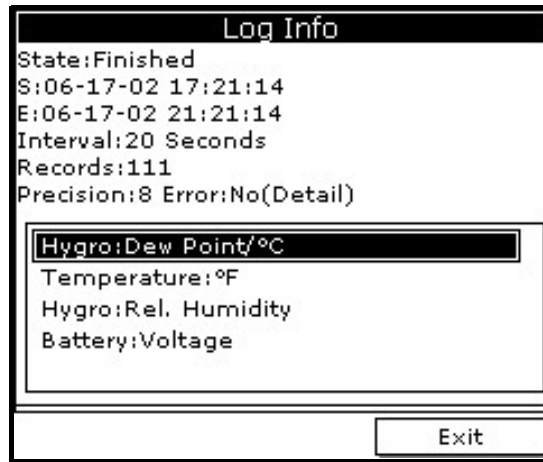

Figure 38: Log Details
4. Use the arrow key to scroll to Details and press **[ENTER]**. A screen similar to Figure 38 on page 46 appears.